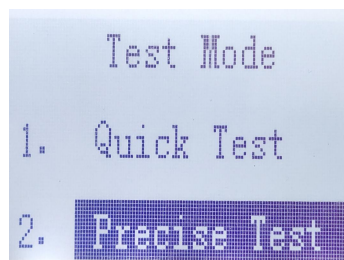

Figure 8
(1) Press the OK key to enter the main menu, and press the triangle down button to select precise measurement. Figure 8: